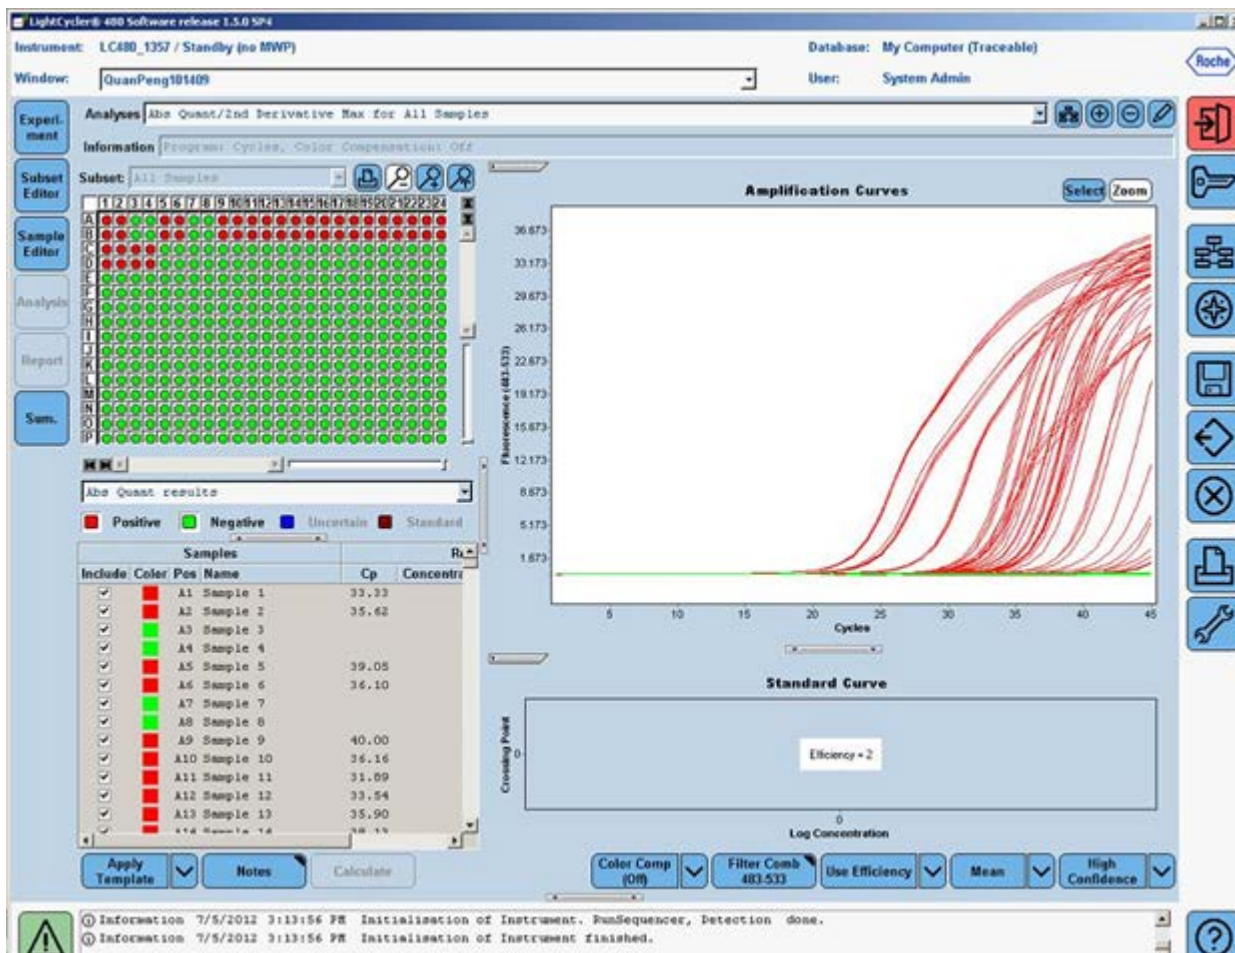

Figure 9. Obtaining the crossing point (Cp) cycle values at the second derivative maximum.
- The "Analysis Window" with the amplification curves will appear (Figure 9). To proceed, click the down arrow button (▼) on the lower right corner of the screen to set the analysis to "High Confidence." Next, click the "Calculate" button to generate Cp values. The calculation may take a few minutes.